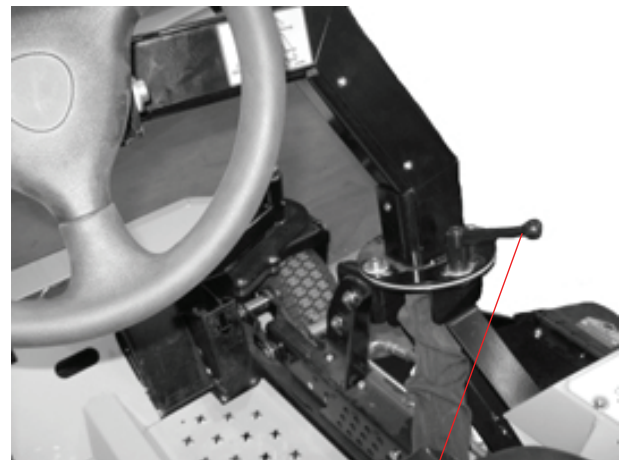

Figure. 3
3. The Steering column also has a swing-away function to enhance entry and egress. A ratchet-type adjustable handle is used to release or tighten the steering column which will allow it to swing away or swing back. See Figure 3 below.